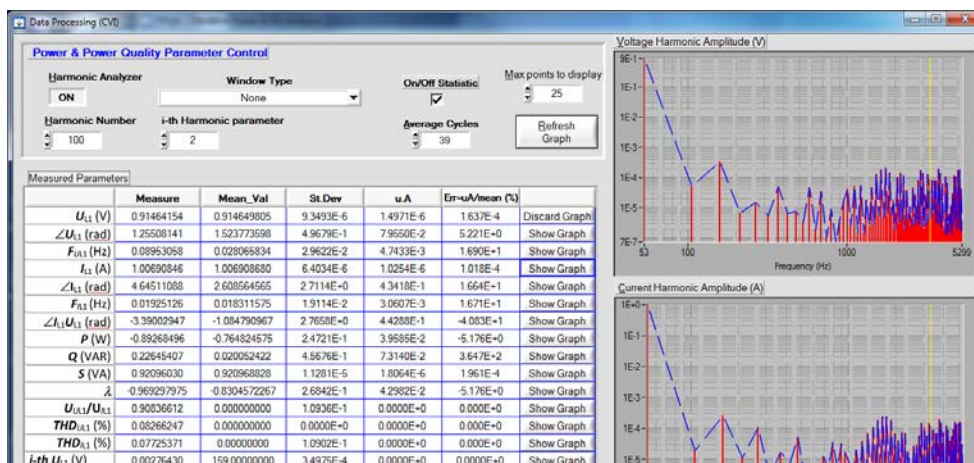

Figure A.17: Preliminary (on-line) data processing using NI-CVI FFT algorithms.
The second GUI for data processing elaboration can be activated by pressing “CVI Data Processing” command button, Figure A.16, which opens the panel shown in Figure A.17
- a) “CVI Data Processing” command button opens the panel shown in Figure A.17. Here there are situated the main waveform parameters computed using native algorithms furnished by NI (National Instruments).